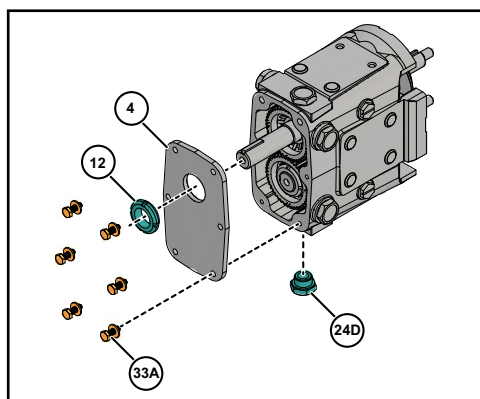

Figure 42 - Remove Gear Case Cover
1. Remove the oil drain plug (Figure 42, item 24D); drain the oil.
2. Remove the cap screws from the gear case (item 33A).
3. Pull the cover (item 4) off the shaft extension. If the cover sticks, use a soft hammer to loosen it.
4. Remove the silicone sealant (item 25) from the gear case and cover.
5. Using an arbor press, remove the oil seal (item 12) from the cover. Discard the used oil seal.